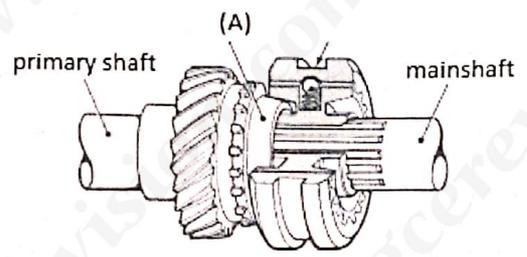

Figure 5
10. Identify and give the function of the part labelled (A) in the gear assembly in figure 5 below